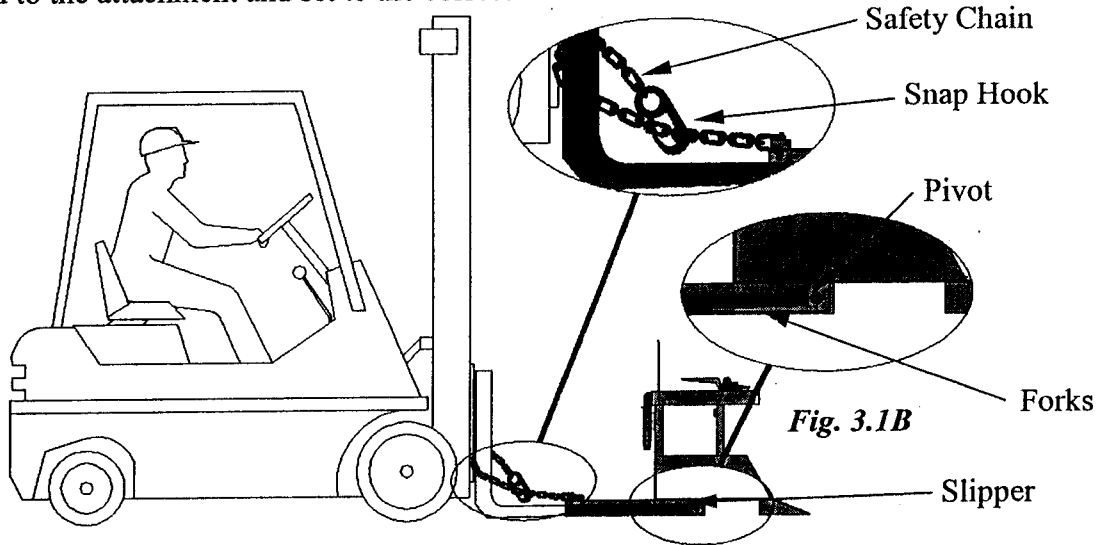

Fig. 3.1A
- a) Attach the NWB Wheelie Bin Tipper to the forklift by engaging the forks into the slippers as shown in *Fig. 3.1A*. Position the forklift with the end of the forks directly below the NWB Wheelie Bin Tipper pivots as shown in *Fig. 3.1B*. Attach the safety chain tightly around the carriage and re-attach through a chain link with the Snap Hook. The length of looped safety chain determines the distance the tines withdraw from the WB-T Wheelie Bin Tipper.